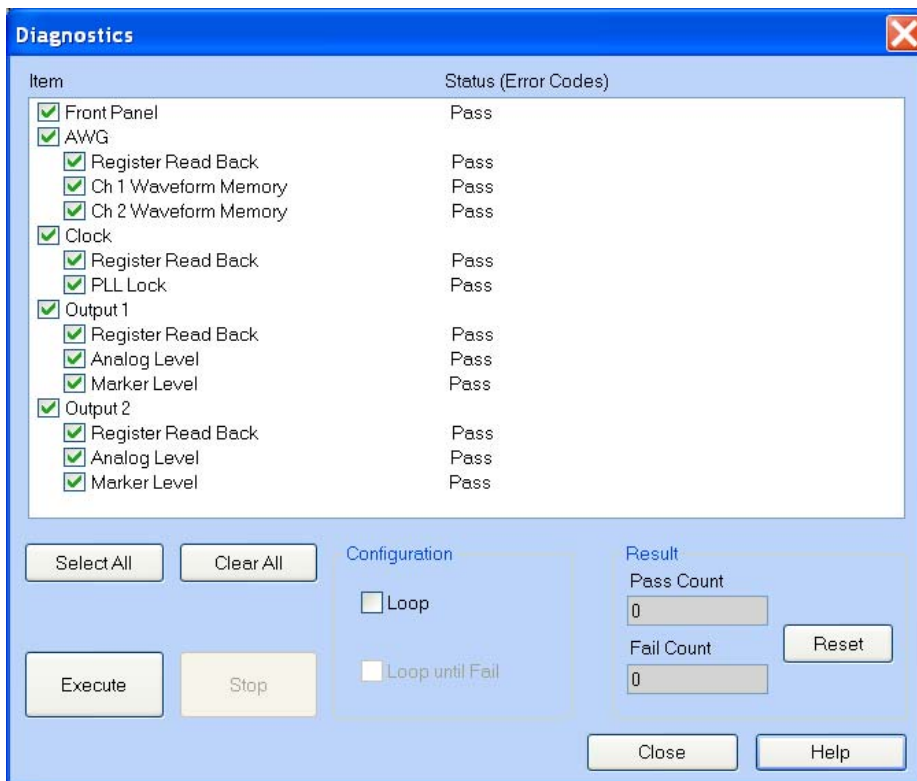

Figure 4-22: Diagnostics dialog box
2. From the menu bar, select **System** and then select **Diagnostics...**; the Diagnostics dialog box appears (see Figure 4-22).